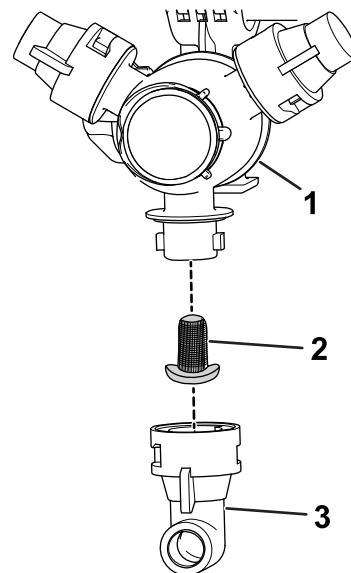

Figure 147
2. Remove the nozzle from the spray turret (Figure 147).
3. Remove the old nozzle filter (Figure 147).
4. Install the new nozzle filter (Figure 147).
5. Install the nozzle onto the spray turret (Figure 147).